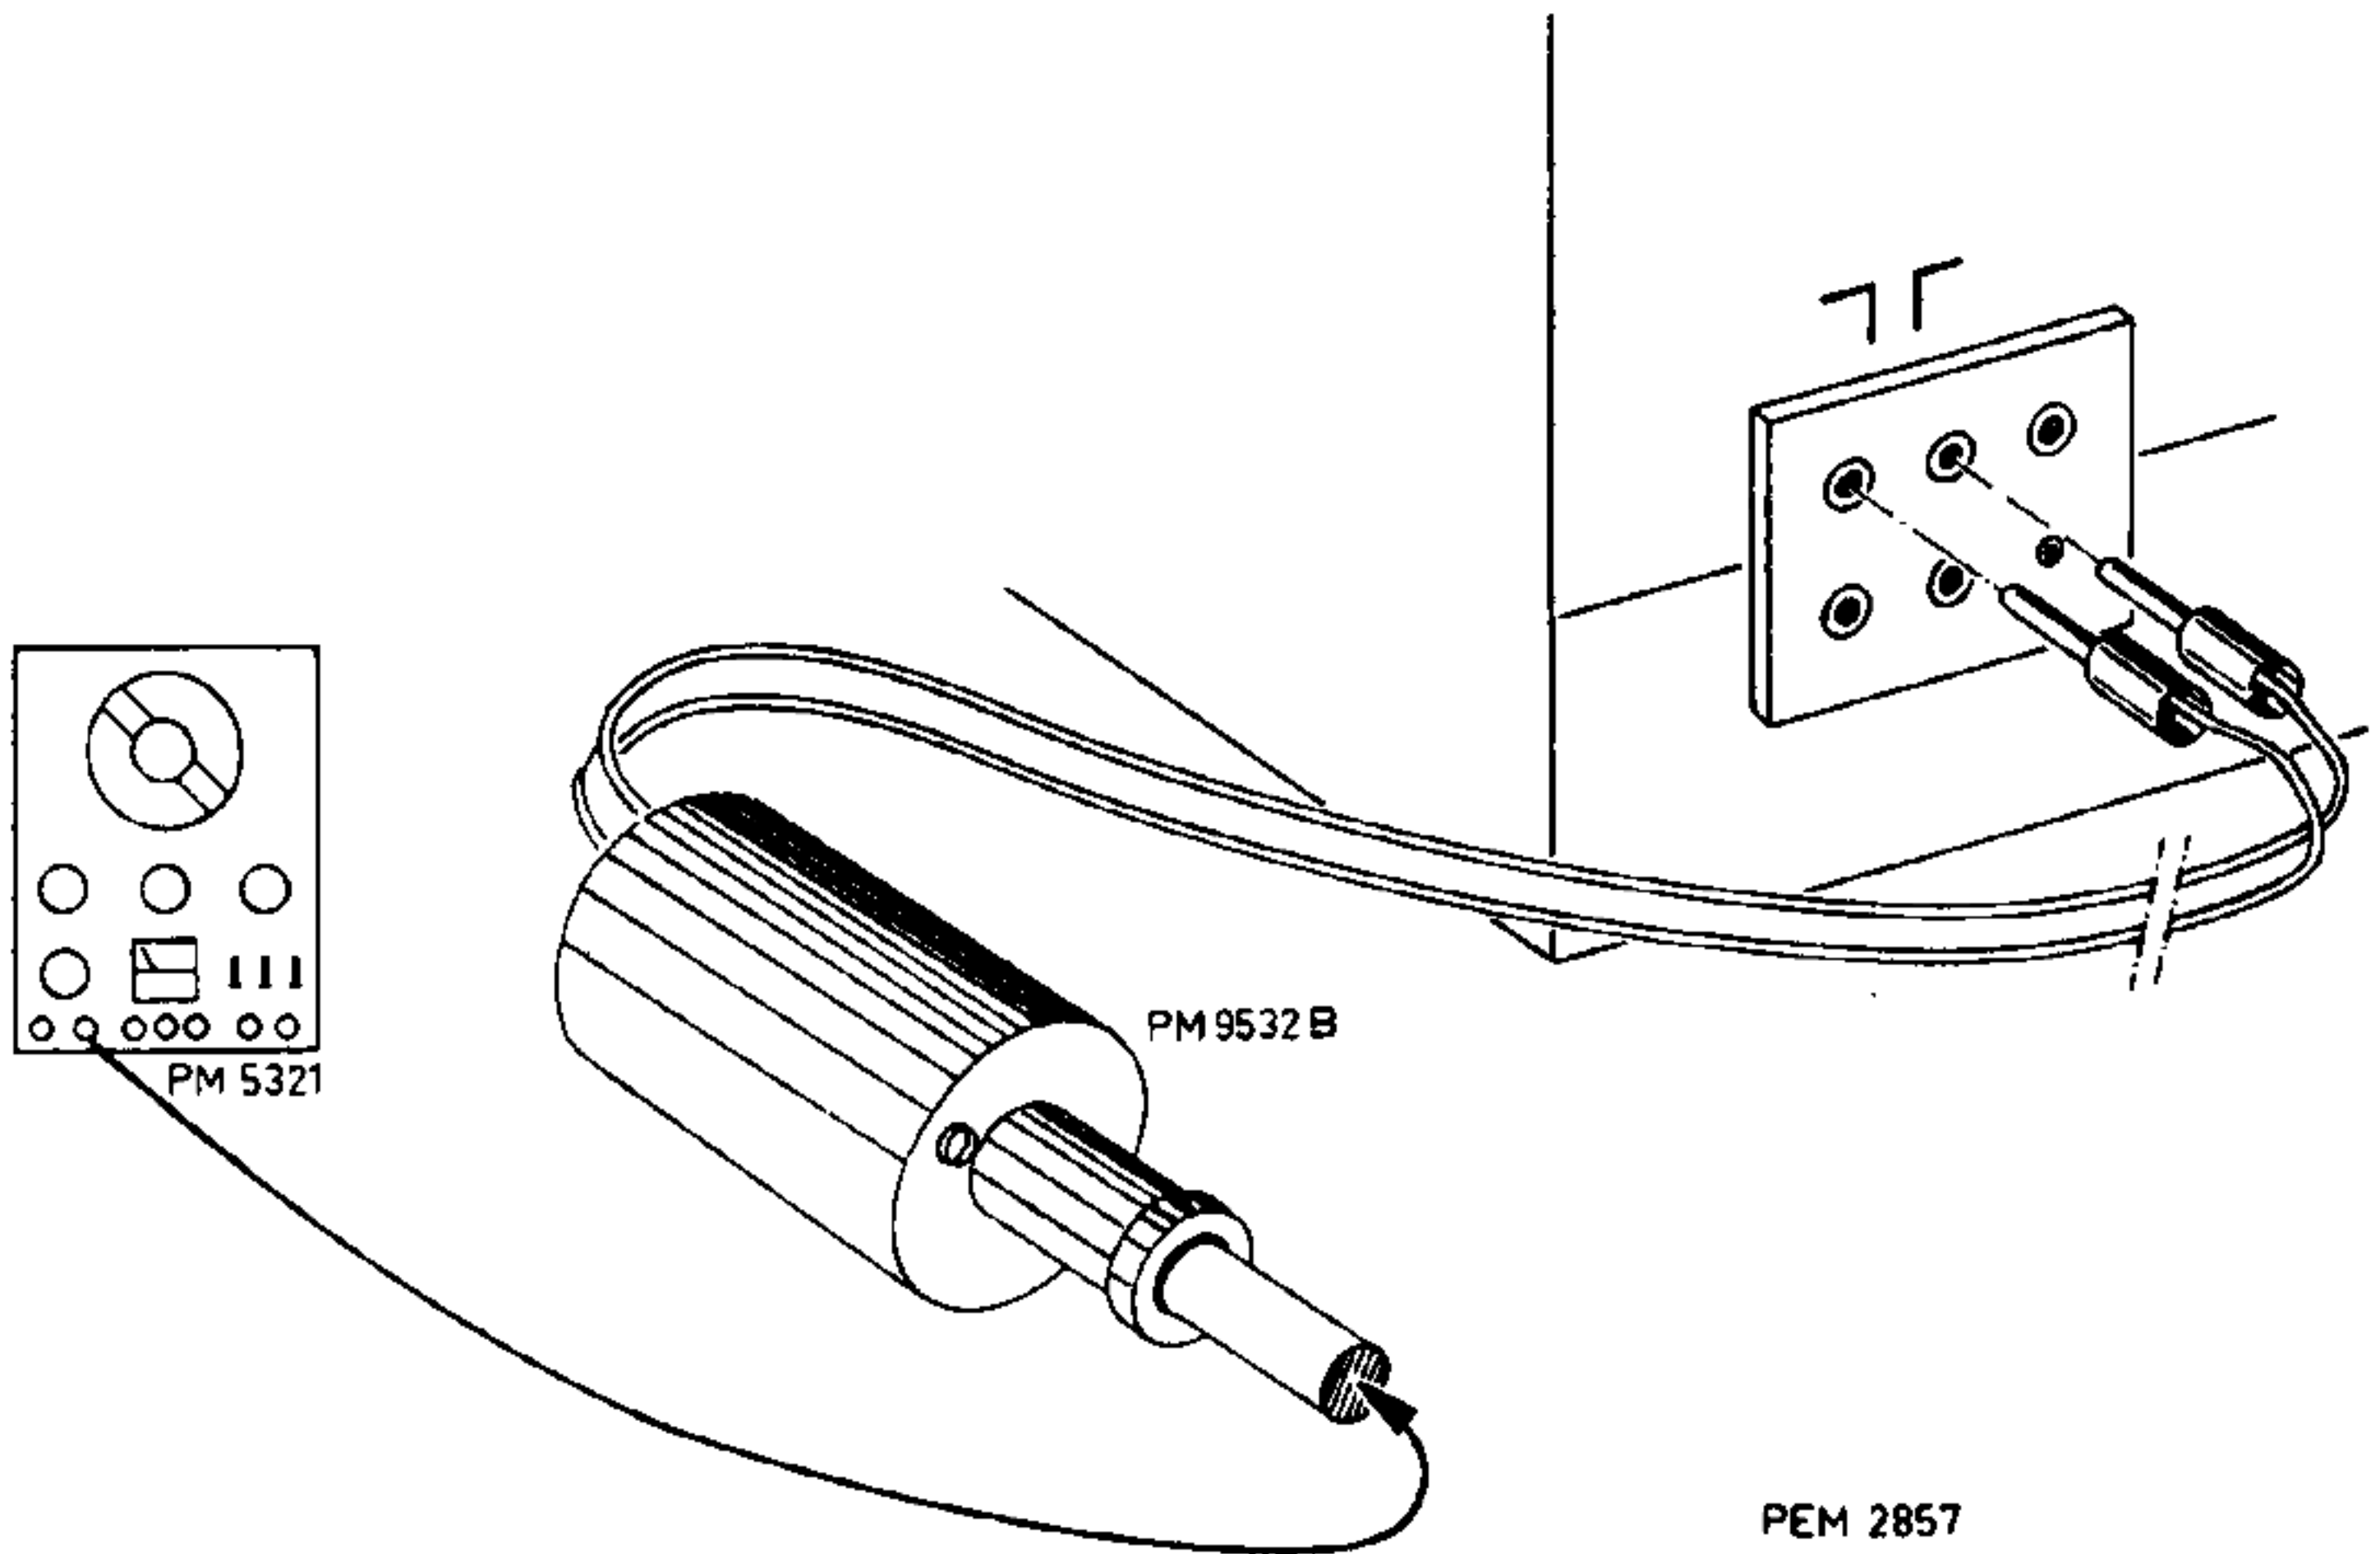

Fig. 24. Connections for adjusting the R.F. and oscillator circuits
2. Connect generator PM 5321 to the F.M. aerial sockets (Fig. 24) via the impedance transformer.